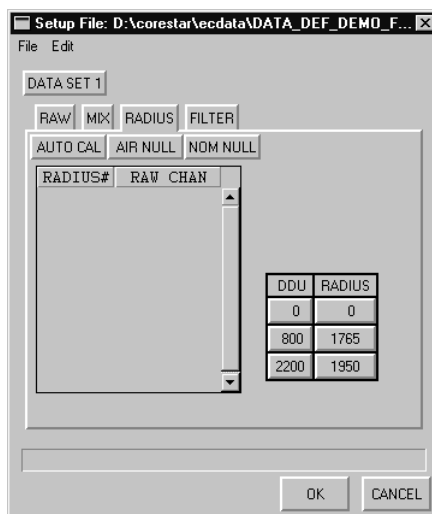

Figure 3-100. Setup Dialog - RADIUS Tab
- ❑ **SETUP > RADIUS Tab:** The **RADIUS** tab on the **Setup** dialog is shown in Figure 3-100. This dialog is used during rod control cluster assembly (RCCA) and other similar inspections where profilometry-type probes are in use, i.e., 8 X 1, etc. Since these settings are very specialized, please contact technical support if the use of this dialog is required.